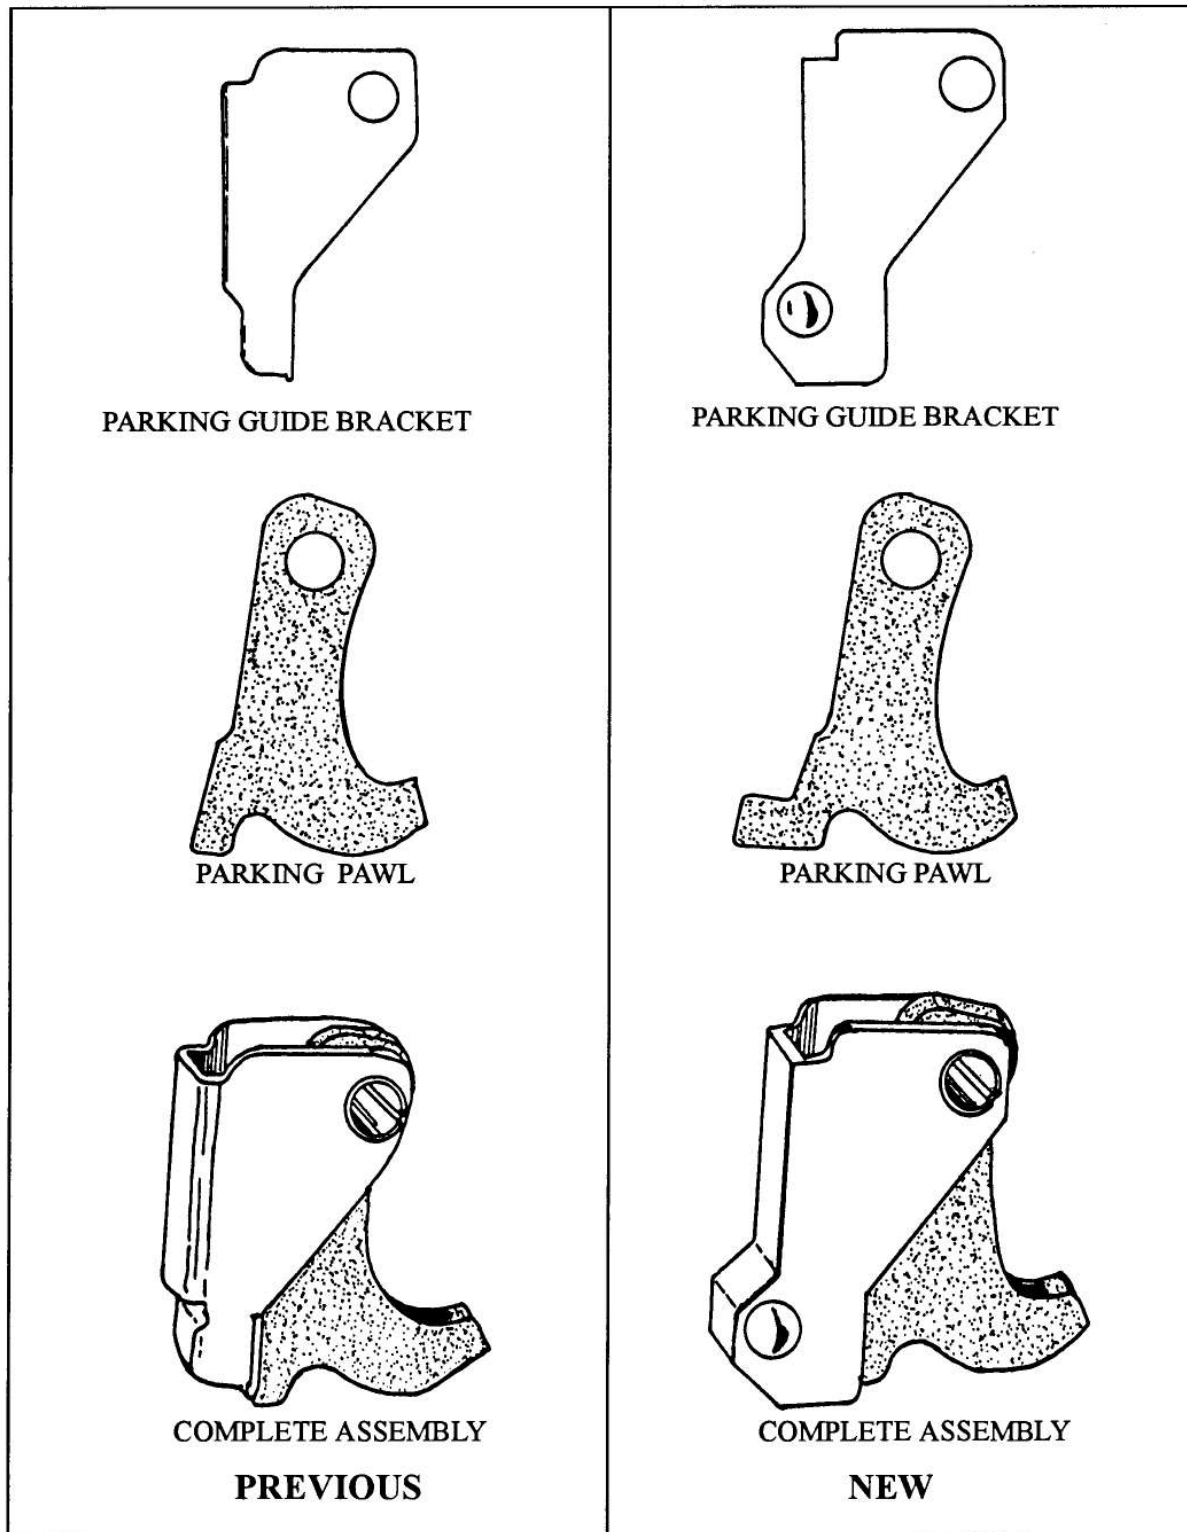

Figure 7
CHANGE: A new Parking Sprag Guide Bracket and Parking Pawl has been introduced as a 1989 running change (See Figure 7).
- (1) **PARKING GUIDE BRACKET** - Previously the Parking Guide Bracket was a stamped steel unit, and has been replaced by a high quality casting, along with dimensional changes. See Figure 7 for identification.
- (2) **PARKING PAWL** - The new Parking Pawl, or "Boot", also required some dimensional changes. The heel of the new "Boot" is wider than the previous models, as shown in Figure 7.
The new parts will retrofit back to all previous models, but both pieces must be replaced as an assembly. (See Figure 7).